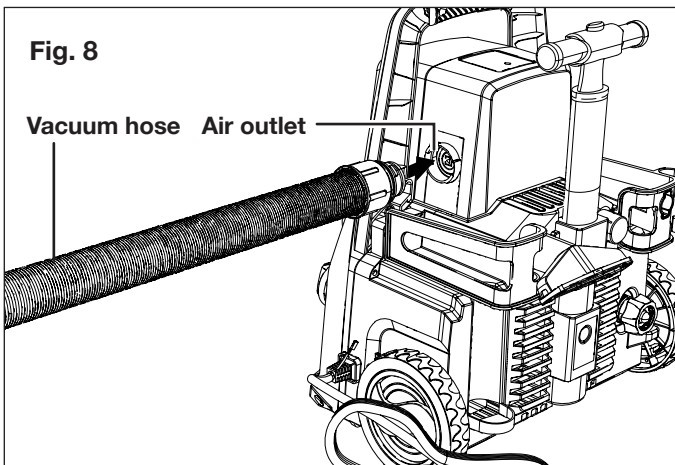

Fig. 8
2. To use this tool as a blower, insert the vacuum tube into the air outlet, and twist clockwise to secure (Fig. 8).
1. Make sure the vacuum hose is installed properly and locked securely in the air outlet (Fig. 8).